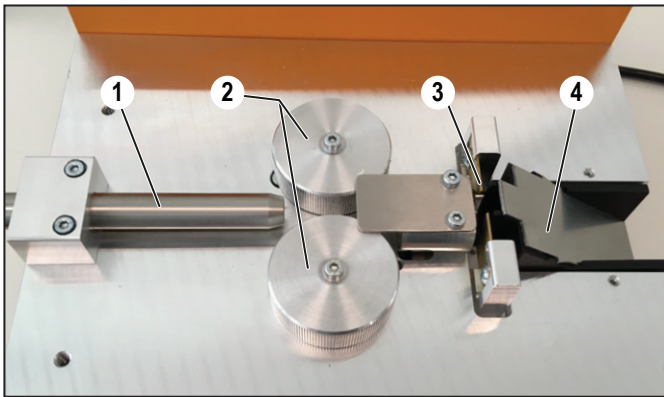

Figure 7.2 Clean the working area
- Wire entry tube (Figure 7.2, 1)
- Feed rollers (Figure 7.2, 2)
- Cutting area (Figure 7.2, 3)
- Slide (Figure 7.2, 4)